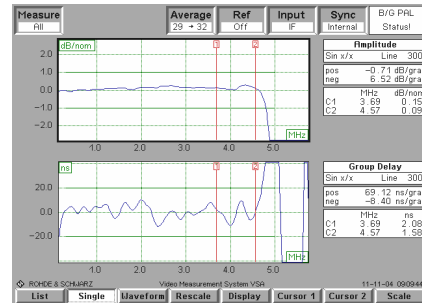

Fig. 10
- ☐ Configure the module with **Precorr** on and calibrate **R39**, **R54**, **R73**, **R88**, **R44**, **R59**, **R78** and **R91** to obtain the desired group delay mask, if needed calibrate **R32**, **R45**, **R63**, **R81**, **R37**, **R50**, **R68**, **R86** and **C49** to make the passing band flat; in case this cannot be done in the base band (the video parameters analyser has no group delay mask for the required standard) the calibration of the IF pre-corrector can be made using the AM receiver set with the trap on the audio carrier enabled, equalising the group delay in order to make it flat as in Fig.10 (thus automatically compensating the trap on the audio carrier of the receiver).